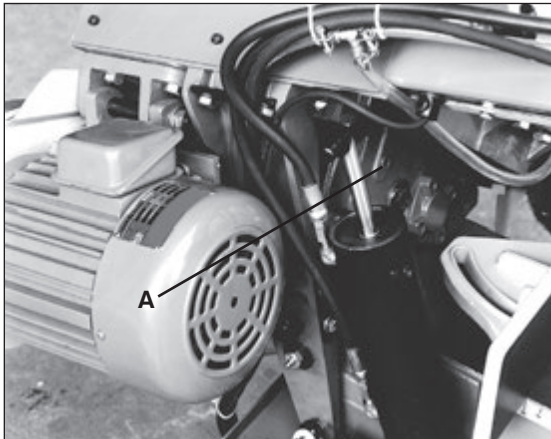

Fig. 13
After the first 50 hours of use the gear box should be drained and refilled. Remove drain plug located under the gear box motor shaft and drain all of the oil out of the gear box and replace plug. Remove oil filler plug (A) Fig. 13 located underneath the right blade wheel and fill the gear box with 1-1/2 pints of ESSO CYLESSO TK460 or equivalent. Oil should then be changed after every 500 hours of operation.